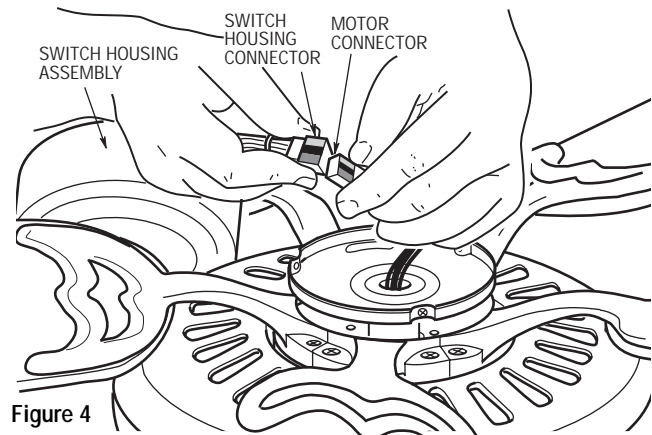

Figure 4
9. Engage the connector of the switch housing assembly with the motor connector (Figure 4). The two connectors are keyed and color-coded and must be mated correctly (color-to-color) before they can be engaged. Make sure the connector latch closes properly.